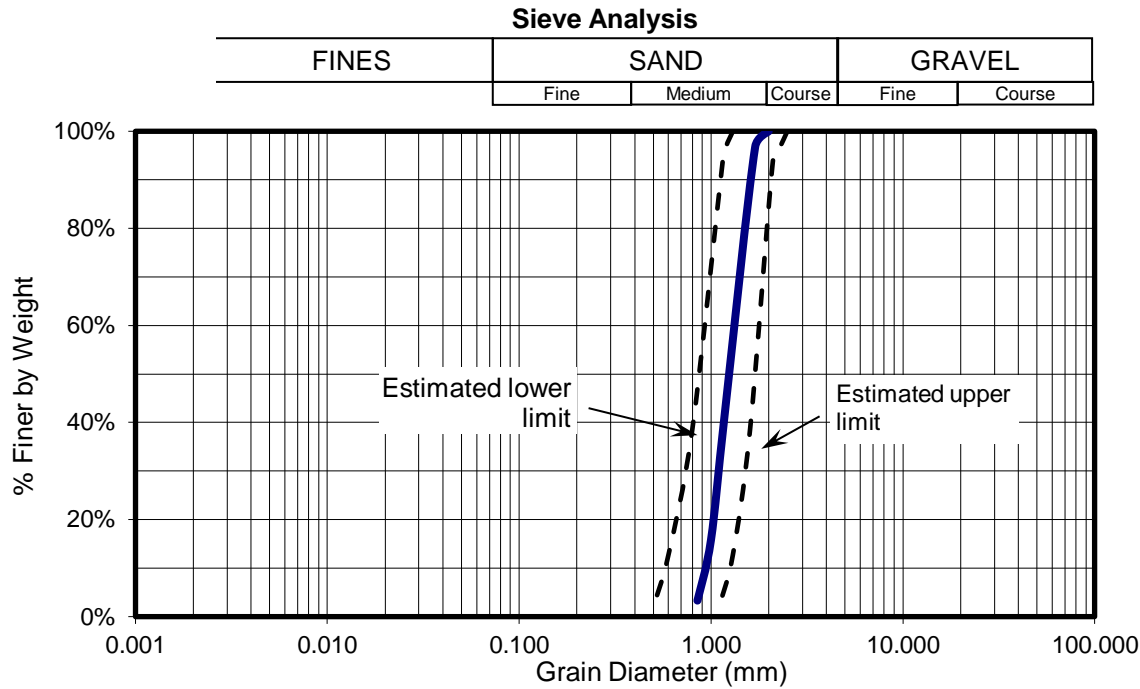

Figure 5: Estimated grain size distribution of backfill sand
8. **Backfill Material** – The backfill material will be sand provided by competition organizers on site. The sand will be a clean, dry, rounded to subrounded sand with grain size as specified in Table 1 and Figure 5. The backfill material must be used as-is; no water, additives, or chemical stabilizers may be placed in the backfill material.
Competition organizers will make reasonable efforts to ensure the competition backfill materials meet the specifications in Table 1 and Figure 5. Teams will be allowed to examine a sample of the competition backfill at the captain's meeting. No backfill samples may be removed from the meeting room. Teams may modify their wall design at this time if they desire. See section 12 below.
- a) **Reinforcement Fabrication Stage** – Each team will be provided with a single sheet of 60 lb kraft paper approximately 24 in × 24 in. The team must fabricate all their reinforcing elements from this sheet using authorized construction tools. Fifteen (15) minutes will be allocated for this stage. Teams will be penalized for time exceeding the time limit. After all reinforcing element are fabricated, excess material will be disposed of and the judges will weigh the reinforcing elements to the nearest 0.01g.
- b) **Wall Assembly Stage** – After each team's reinforcing elements have been fabricated and weighed, the team will be provided with two sheets of poster-board (22 in × 28 in) and a roll of packing tape. The team must assemble their wall using these materials and authorized construction tools. Dimensions for the wall facing are shown in Figure 5.
- i) Tape may be used for only two purposes: 1) to join the two poster-board sheets along the lap splice (Figure 5) to form the wall facing and 2) to attach reinforcement to wall facing. The poster-board sheets must be joined using a single lap splice on each side not exceeding 1" to form the wall facing. A single continuous strip of tape may be used on each side of the poster-board to join the poster-board sheets. The tape must be in contact with only the two poster-board sheets. No other adhesives may be used to join the poster-boards.